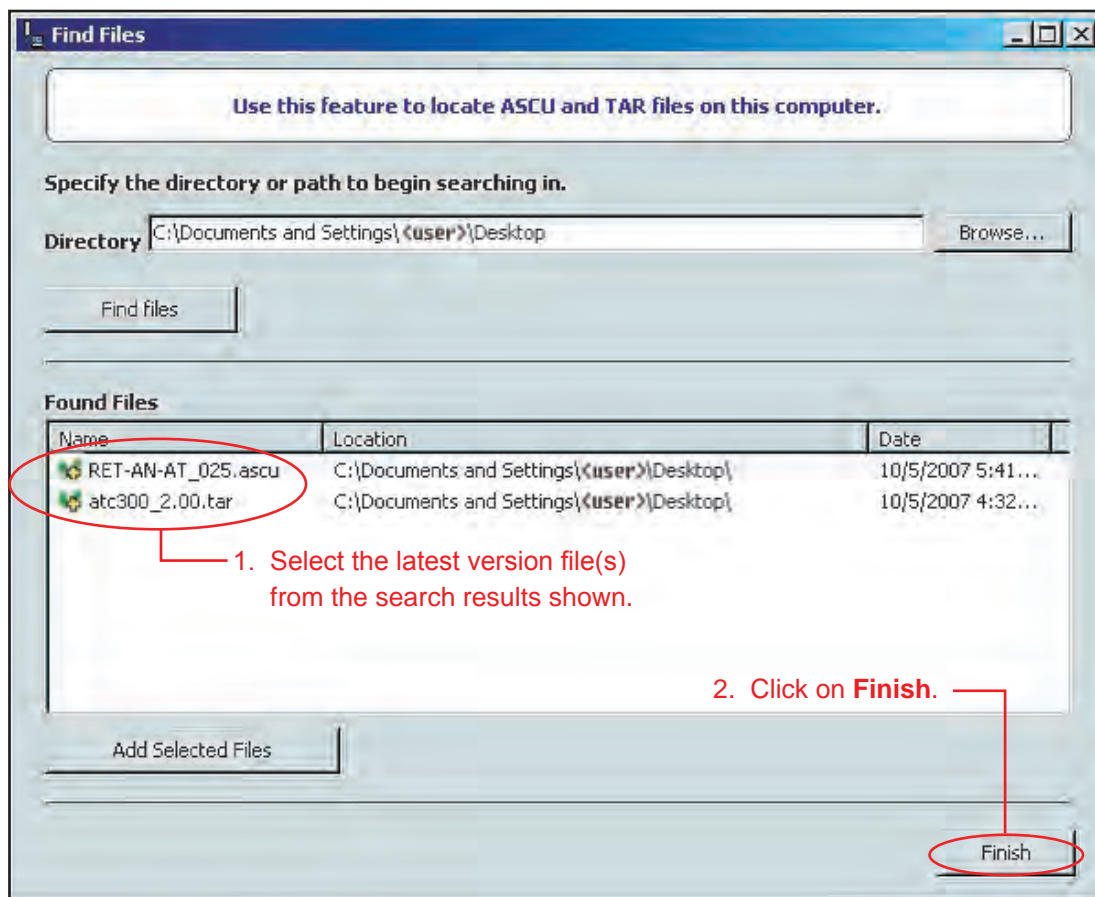

Figure 9-6. Files Ready To Be Uploaded To Controller Identified.
- After the files have been added to the FTP server, a check mark with a plus sign is shown next to the file to indicate it is ready for upload to the controller (Figure 9-6).
Click on **Finish** (Figure 9-6).